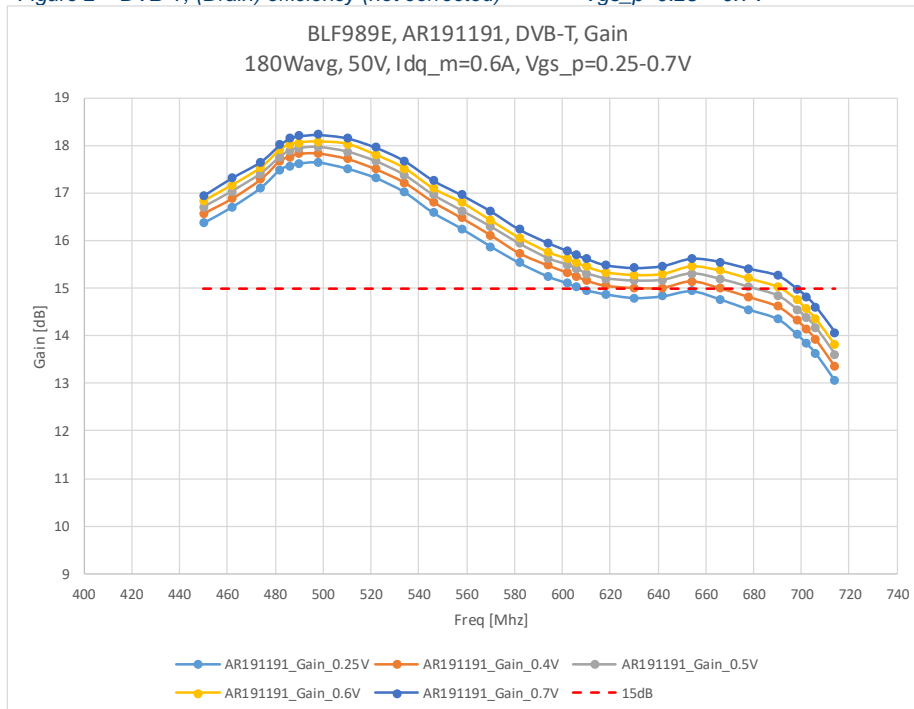

Figure 3 DVB-T, Gain (not corrected) $V_{gs_p}=0.25 - 0.7V$
- Figure 3 DVB-T, Gain (not corrected)..... Vgs_p=0.25 – 0.7V 6